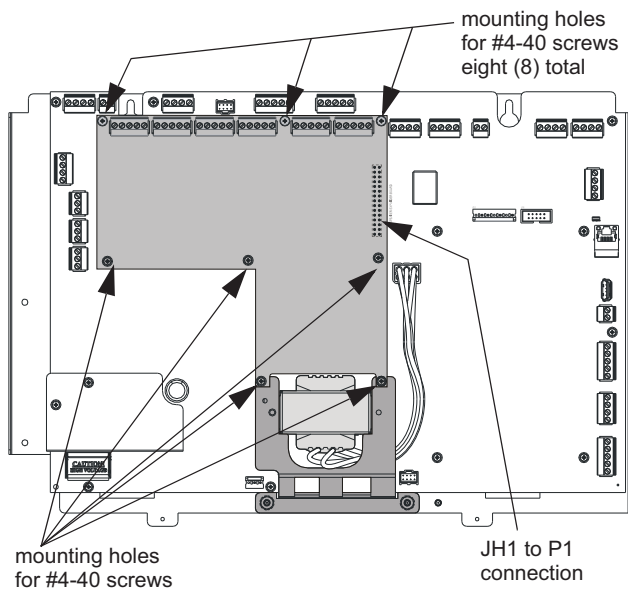

Figure 4 Mounting the NFC-CE6 & Transformer
4. Secure the NFC-CE6 to the standoffs with the eight (8) #4-40 screws previously removed. The bottom end of the NFC-CE6 will mount on the transformer bracket. See Figure 4.